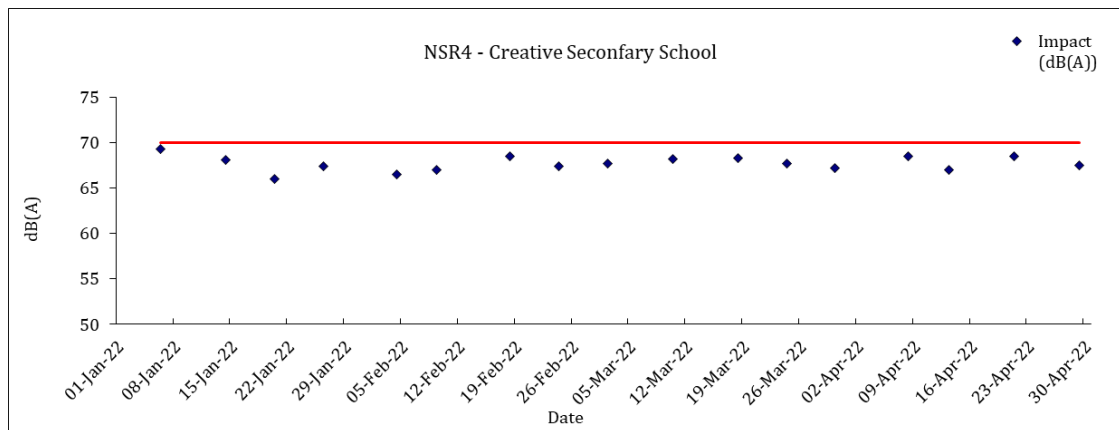

Figure 2.4 Graphical presentation of the construction noise monitoring at NSR4
- 2.5.3. The Graphical presentation of the construction noise monitoring results was shown in **Figure 2.4**.